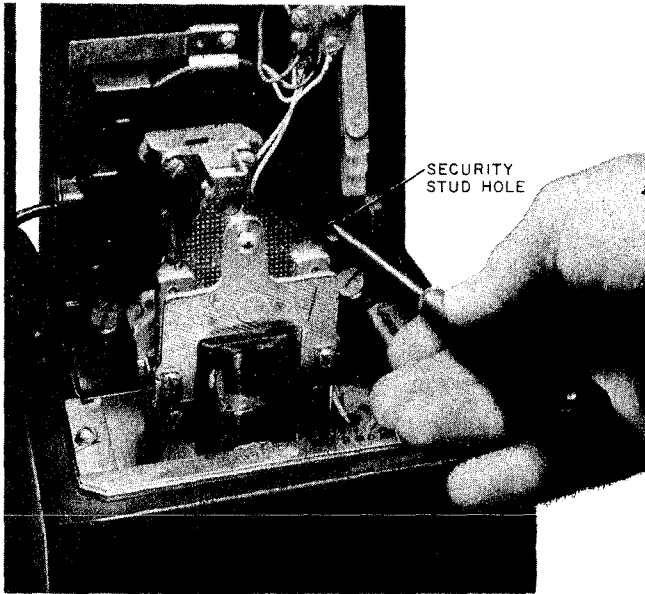
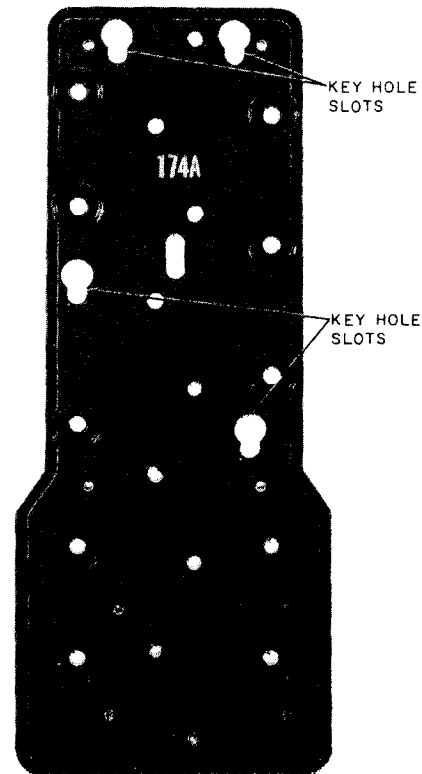

Fig. 19—Method of Determining if Mounting Surface is Equipped with Keyhole Slots
Fig. 20—174A Backboard with Four Keyhole Slots for Security Studs and Bolt Fastener
- If a security stud is absent in the lower right security stud hole, place a small-bladed screwdriver in this hole (Fig. 19). If blade enters to a depth of at least 3/4-inch, a keyhole slot is present (Fig. 20) and the appropriate bolt fastener can be used. If the keyhole slot is missing, replace mounting surface to permit use of a bolt fastener or use stud fastener.